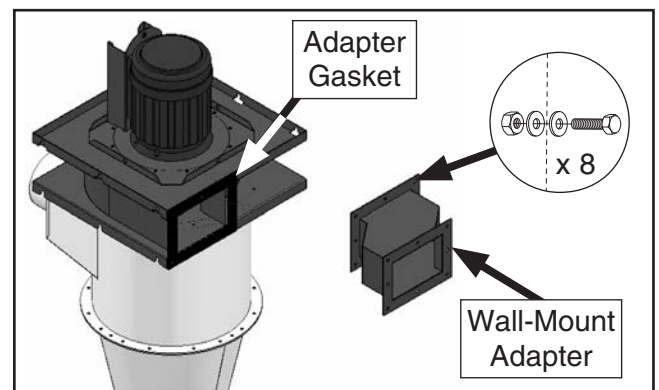

Figure 22. Attaching wall-mount adapter.
3. Attach adapter gasket and wall-mount adapter using (8) $\frac{3}{8}$ "-16 x 1" hex bolts, (8) $\frac{3}{8}$ " hex nuts, and (16) $\frac{3}{8}$ " flat washers (see **Figure 22**).